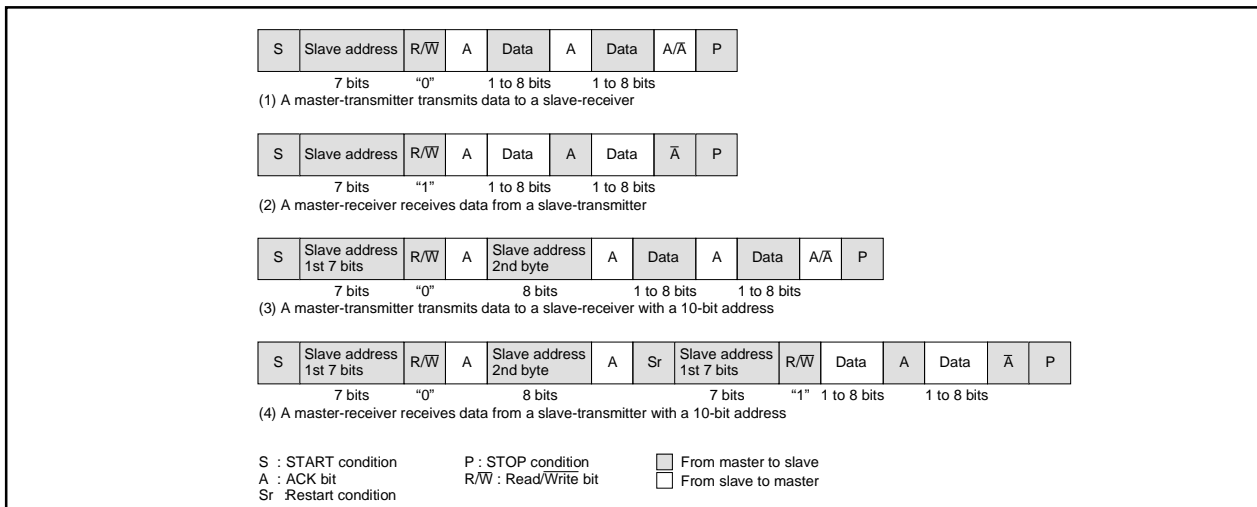

Fig. 2.11.41 Address data communication format
To meet the 7-bit addressing format, set the 10BIT SAD bit of the I2Ci control register to “0.” The first 7-bit address data transmitted from the master is compared with the high-order 7-bit slave address stored in the I2Ci address register. At the time of this comparison, address comparison of the RBW bit of the I2Ci address register is not made. For the data transmission format when the 7-bit addressing format is selected, refer to Figure 2.11.41, (1) and (2).
When the first-byte address data matches the slave address, the AAS bit of the I2Ci status register is set to “1.” After the second-byte address data is stored into the I2Ci data shift register, make an address comparison between the second-byte data and the slave address by software. When the address data of the 2nd bytes matches the slave address, set the RBW bit of the I2Ci address register to “1” by software. This processing can match the 7-bit slave address and R/ $\bar{W}$  data, which are received after a RESTART condition is detected, with the value of the I2Ci address register. For the data transmission format when the 10-bit addressing format is selected, refer to Figure 2.11.41, (3) and (4).
**(11) Example of Master Transmission**